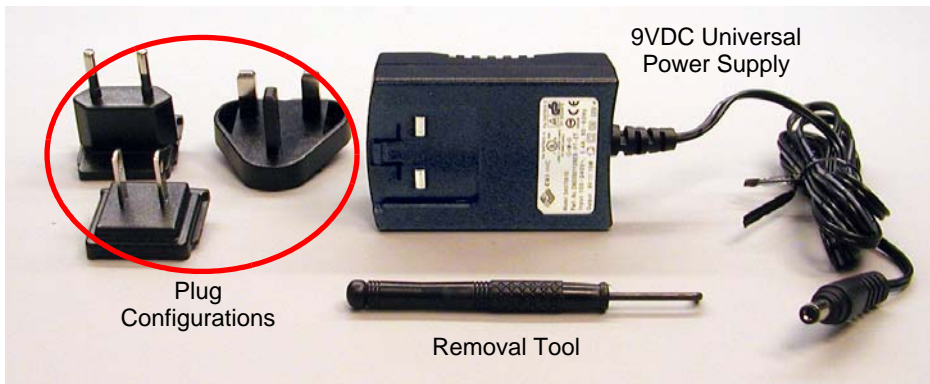

Figure 3. 9VDC Universal Power Supply Components
- 9VDC universal power supply (for more detail see Figure 3 on page 6)
Figure 3 illustrates the contents of the Universal Power Supply kit.